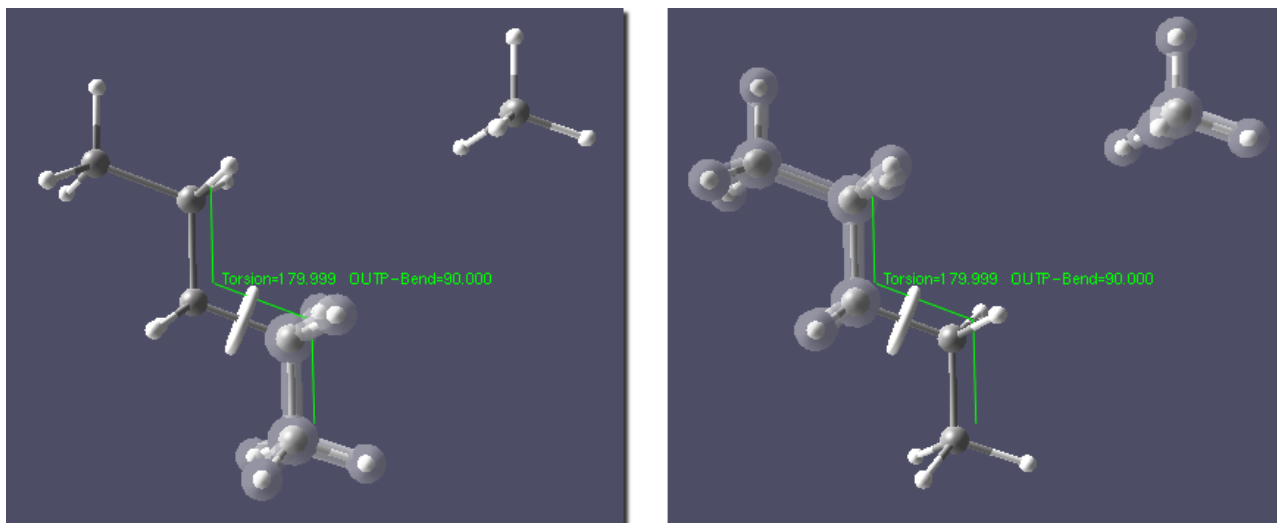

Figure 2.26: Inverse Selection example - before (left image), after (right image)
- **Inverse Selection** toggles the selection state of all atoms and bonds. All selected atoms before the operation become deselected after the operation and vice versa as shown in Figure 2.26.